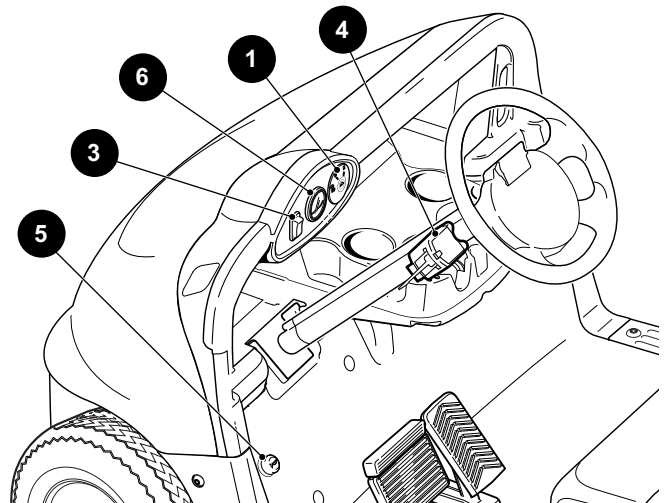

Figure 1
The key switch (1) is located on the dash panel. The switch controls the basic electrical system of the vehicle to be turned on and off by turning the key. To prevent accidental operation of an unattended vehicle, turn the key to the OFF position and remove from the switch (Figure 1).
If the vehicle is equipped with lights, the headlight ON/OFF switch (3) is located on the instrument panel to the left of the key switch (1) (Figure 1).
The turn signal switch (4) is on the steering column and controls the operation of the right and left turn signal lights (Figure 1).
The horn button (5) is located on the driver side of the floorboard. Press the button to activate the horn (Figure 1).
The Fuel gauge (6) is located on the dash panel to the left of the key switch (1). The fuel gauge indicates the amount of fuel remaining in the fuel tank. The fuel gauge operates only when the key is in the ON position and the accelerator is pressed (Figure 1).